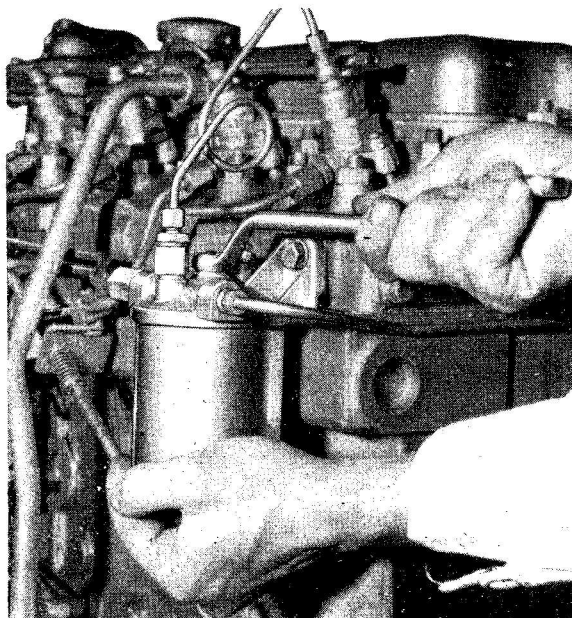

Fig. 1
1. Remove filter bowl as in Figs. 1 and 2.